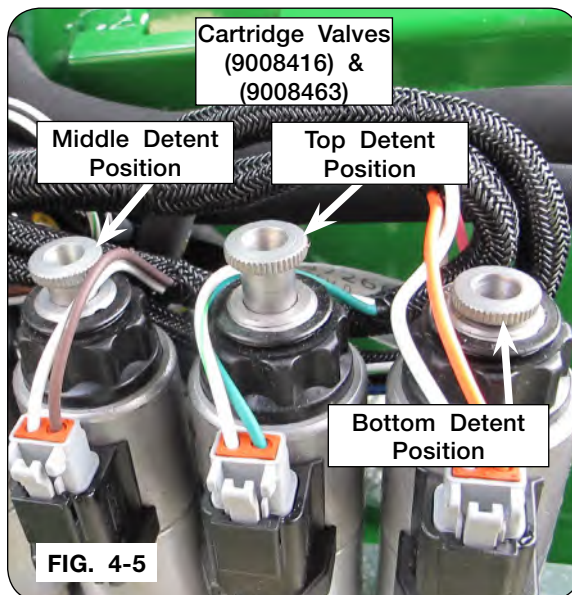

FIG. 4-5
NOTE: Only one cartridge valve (9008416 & 9008463) must be in the top or bottom detent position at a time to function properly. All other valves must be in the middle detent position. (FIG. 4-5 & 4-6)
5. Operate the desired function on valve (9008416 & 9008463) by rotating the manual override knurled knob from the locked neutral position. (FIG. 4-5, 4-6, & 4-8)
8. Return knurled knob to center and lock valve (9008416) & (9008463) in position. (FIG 4-5, 4-6 & 4-8)